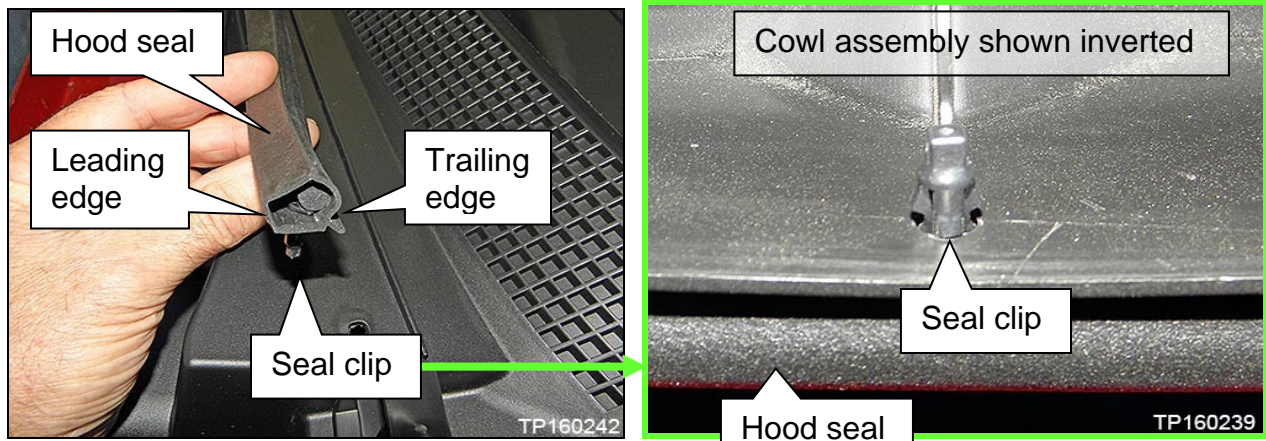

Figure 8
8. Remove the hood seal from cowl cover assembly (Figure 8).
- Detach Ten (10) clips.
IMPORTANT: The seal has a leading and trailing (front and back) edge. Note the seal orientation (Figure 8) before removal.